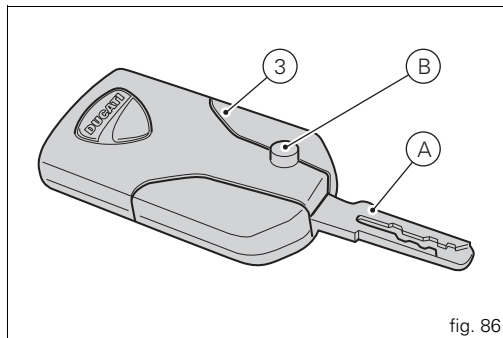

fig. 86
The metal part (A) of the key (3) remains hidden inside its housing, it exits by pressing the button (B, fig. 86).
With the vehicle in Key-On and “engine off”, if the presence of the active key (3, fig. 86) is not detected for thirty consecutive seconds, the motorcycle will turn off automatically without any action by the rider.